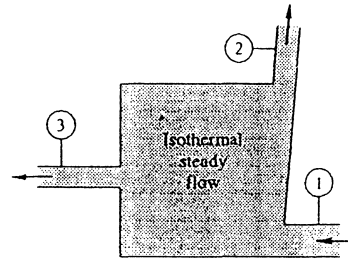

Fig. P3.126
3.126 Given is steady isothermal flow of water at 20°C through the device in Fig. P3.126. Heat-transfer, gravity, and temperature effects are negligible. Known data are $D_1 = 9$ cm, $Q_1 = 220$ m³/h, $p_1 = 150$ kPa, $D_2 = 7$ cm, $Q_2 = 100$ m³/h, $p_2 = 225$ kPa, $D_3 = 4$ cm, and $p_3 = 265$ kPa. Compute the rate of shaft work done for this device and its direction.